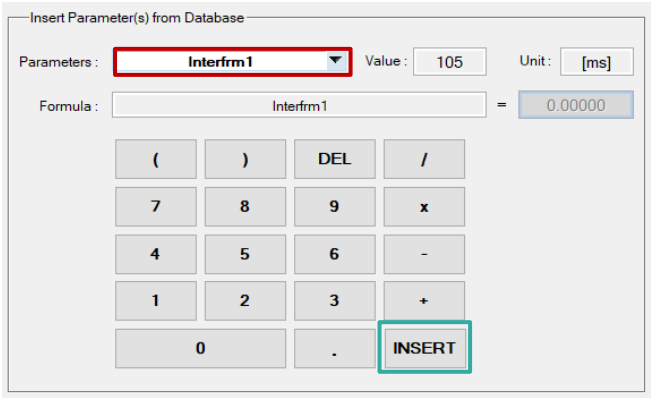

Figure 9. Numeric keypad for Expected Results creation
(6) **Numeric keypad:** the numeric keypad, shown below in the Figure 9, allows you to enter the value of your choice (Function Code Value, Value, Tolerances...).